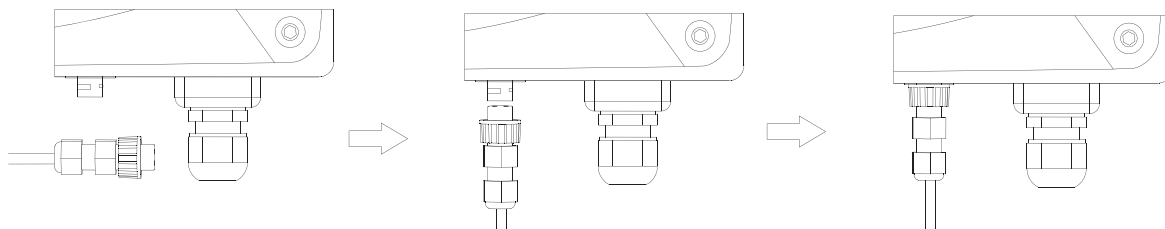

Fig 7.4 Connect communication cable to the inverter
- (1) Connect the communication connector configured for the inverter to the RS485 terminal of the inverter, as shown in fig 7.4;
- (2) Connect the outgoing wire of the communication connector to the user device correctly